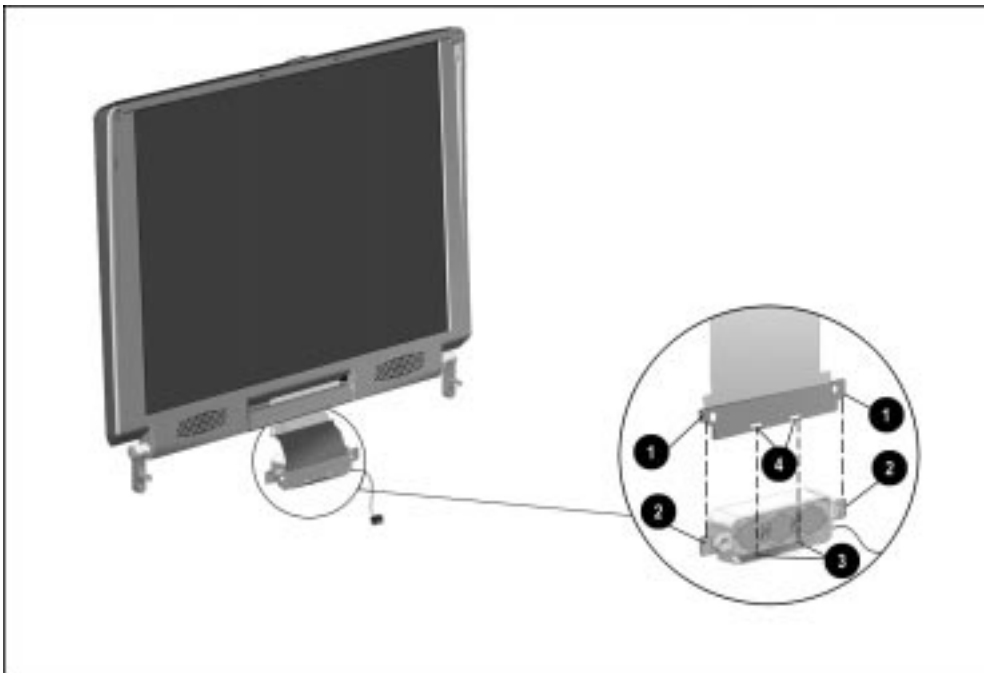

Figure 5-53. Attaching the Display Ground Cable to the Auxiliary Battery Assembly
1. Attach the auxiliary battery assembly to the display ground cable. The tabs on the ends of the ground cable ❶ fit into the slots on the end of the auxiliary battery bracket ❷; the pins on the bottom of the bracket ❸ fit into the holes on the bottom of the ground cable ❹ (Figure 5-53).